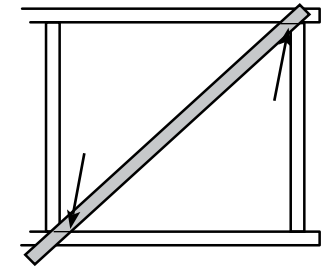

Figure 22
2. Mark on both ends where the piece lies across the parallel pieces (Figure 22). Cut the marks.